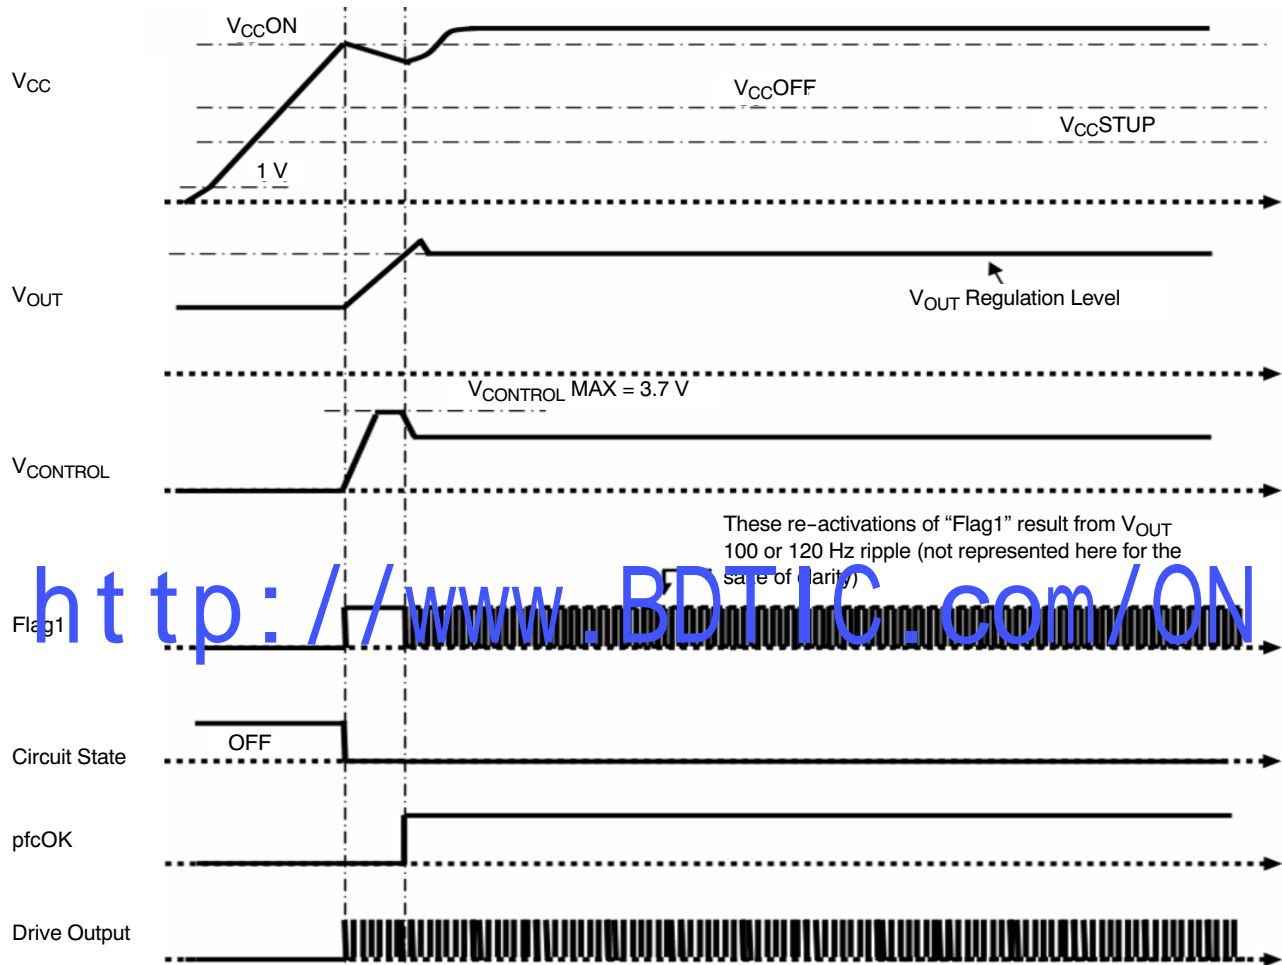

Figure 70. Startup Phase in Normal Conditions
- In case of normal conditions (Figure 70).
The output voltage exhibits a 100 or 120 Hz ripple (at twice the line frequency). This ripple is also present in the  $V_{\text{CONTROL}}$  voltage even if it is attenuated due to the regulation low bandwidth. Like that of  $V_{\text{OUT}}$ , this ripple is not represented in Figure 70, for the sake of the clarity.